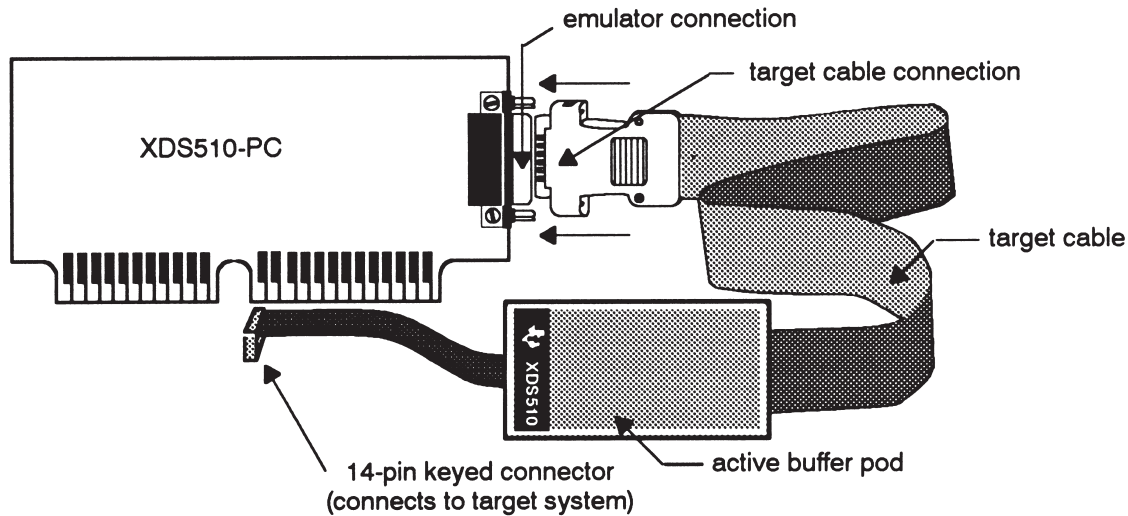

Figure 2. Connecting the XDS510 ISA Card to the Target System
When using a personal computer (PC), the JTAG connection to the target processor can be made through several options including a PCI card (Figure 1), ISA card, (Figure 2), USB, PCMCIA, Ethernet, or many other options. This information regarding the scan control is available to the PC host via dynamically linked libraries (DLLs).